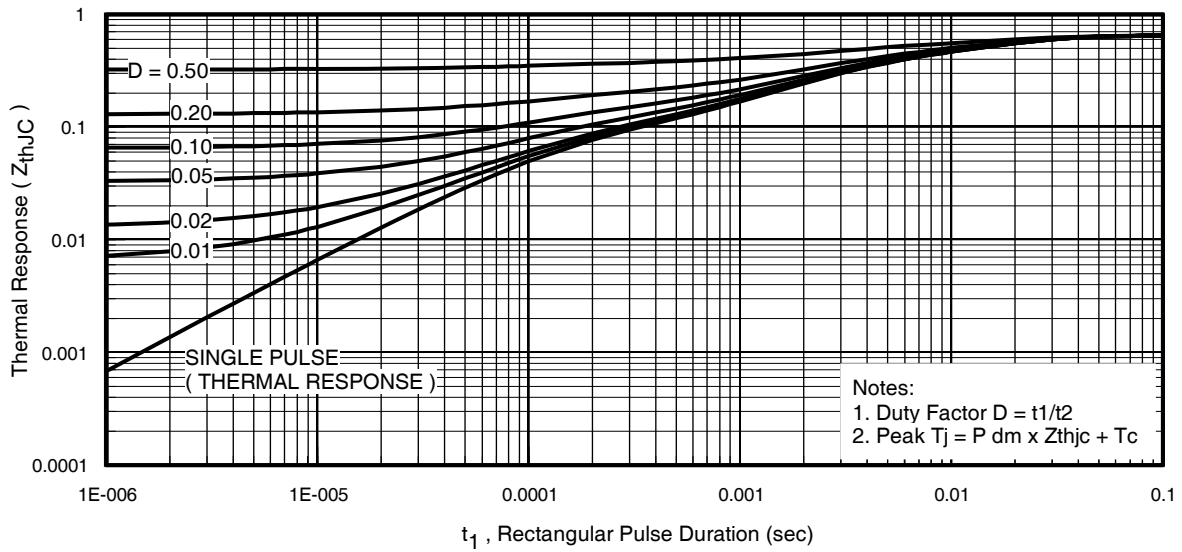

Fig 14. Maximum Effective Transient Thermal Impedance, Junction-to-Case
Notes on Repetitive Avalanche Curves , Figures 14, 15:
7. ΔT = Allowable rise in junction temperature, not to exceed T_{jmax} (assumed as 25°C in Figure 14, 15).